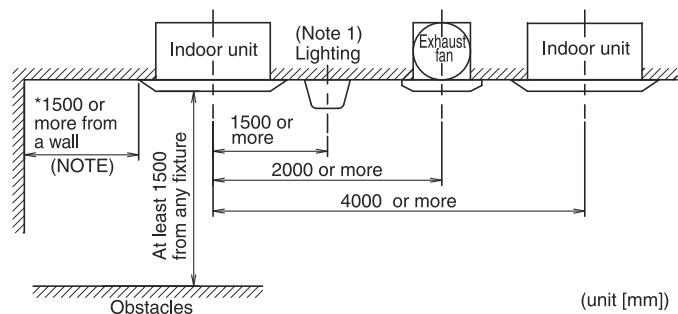

Fig. 2
- Any vents, light fixtures, or other appliances which may disturb the airflow might cause ceiling to become dirty if located too nearby, so follow **Fig. 2** when installing.